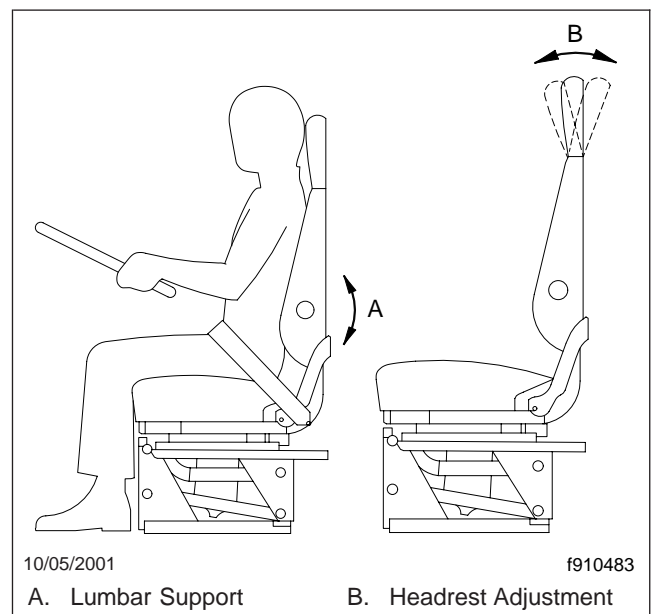

Fig. 3.5, Lumbar Support and Headrest Adjustment
3. **Lumbar Support:** Lumbar support changes the shape of the seat back to give more or less support to the occupant's lumbar (lower back) area. This adjustment is either mechanical or air controlled, depending on make and model of the seat. See Fig. 3.5.
4. **Headrest:** When this adjustment is made, the upper part of the backrest (back cushion) changes angle to provide head and upper back support. See Fig. 3.5.